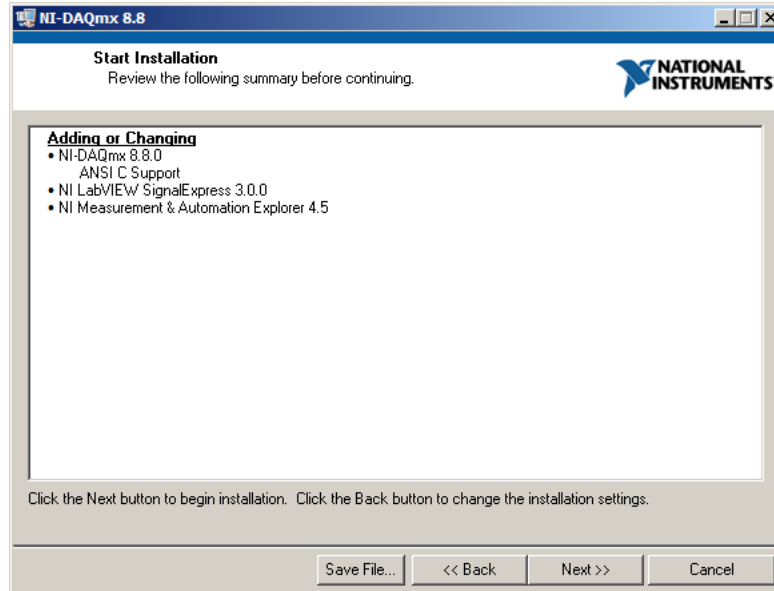
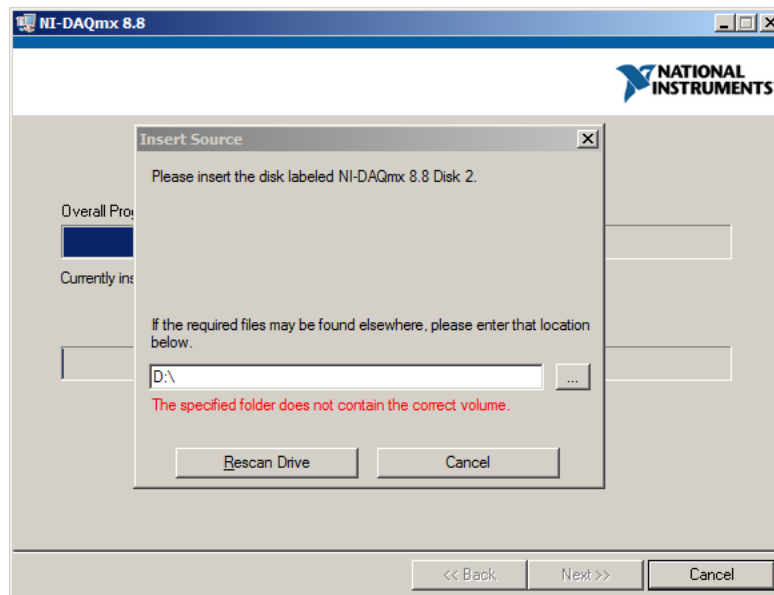

Figure A.8: Installation summary.
Figure A.9: CD 2 prompt.
- Click Next at the summary page (Figure A.8) to begin installation, inserting the second CD when it is requested (Figure A.9).